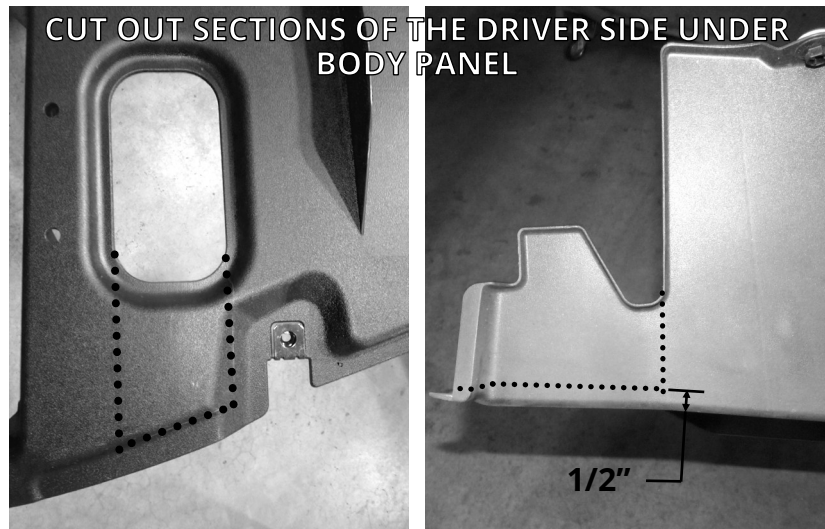

FIGURE C1: DRIVER SIDE PANEL CUTOUTS
10. Using a Dremel tool (or similar tool) and file to cut out the two sections of the driver side under body panel, as shown in Figure C1.